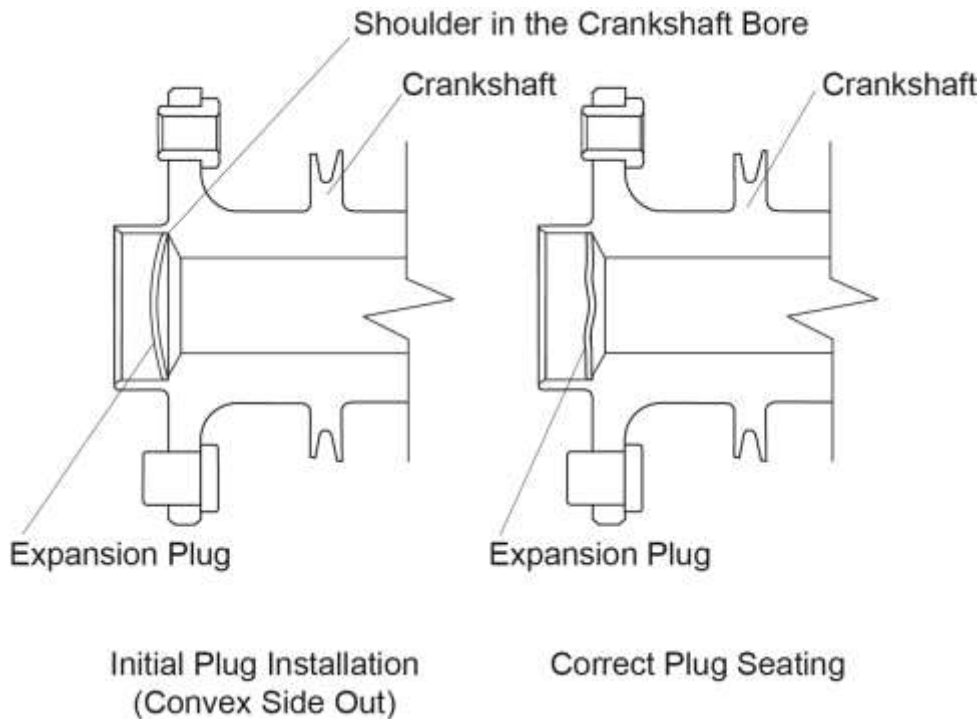

Figure 52
- (2) Apply a bead of Loctite® #2 Non-Hardening Gasket Maker or equivalent to the perimeter of a new expansion plug.
- (3) Seat the new expansion plug firmly on the shoulder in the bottom of the crankshaft bore with the convex side out (Figure 52).
- (4) Install a Crankshaft Welch Plug Driver P/N 64681 against the expansion plug and strike the end of the driver with a hammer until the expansion plug is correctly seated (Figure 52) in the crankshaft bore.
- (5) Remove excess gasket material with a clean cloth soaked with acetone.